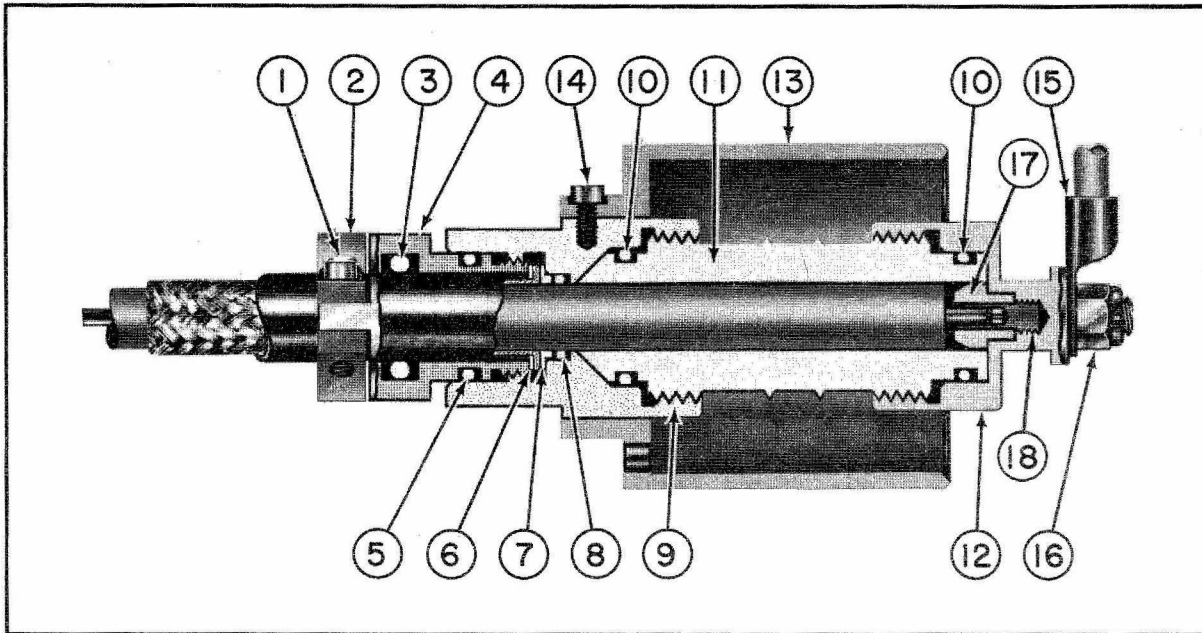

Figure 5-10a. MX-1203F/U Assembled
(5) **MX-1203F/U Detailed Assembly.**- This fitting will accommodate any coaxial cable having a jacket OD of 0.855 inch minimum - 0.910 inch maximum, dielectric OD of 0.665 inch minimum - 0.695 inch maximum, and an inner conductor OD of 0.188 inch minimum - 0.196 inch maximum. The cable is terminated in the fitting. Assembled and exploded views are shown in figures 5-10a and 5-10b. In these views the parts are assigned piece numbers which are used for reference in the assembly instructions. Table 5-6 lists the stock numbers for the required parts.